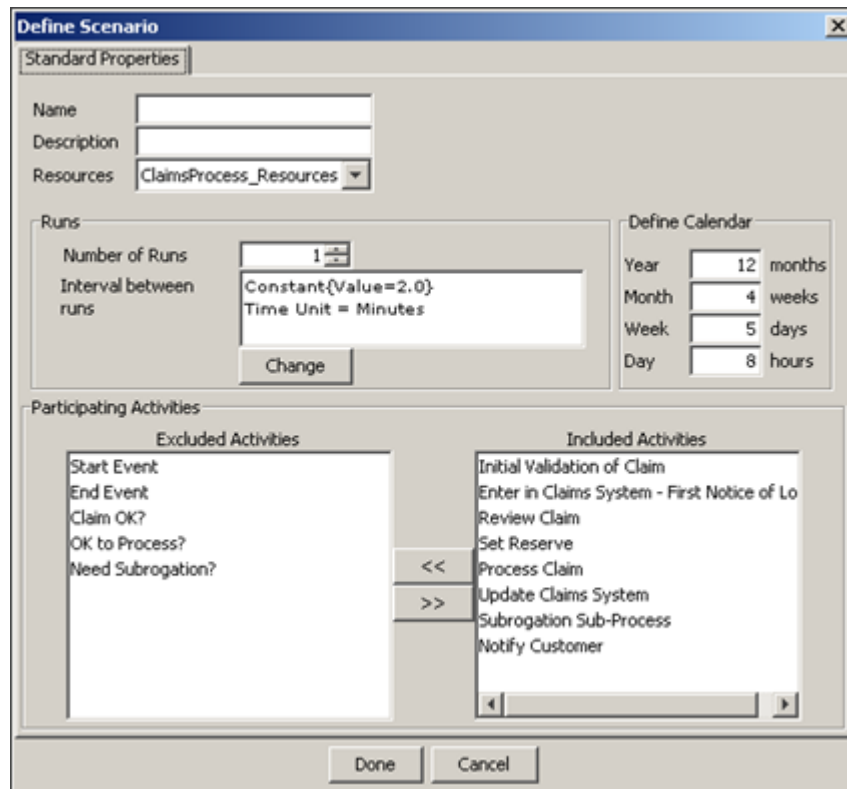

Figure 7: Create New Scenario
1. In the Process Simulator applet, click **Create New Scenario** () icon. The Define Scenario dialog box appears (see Figure 7).